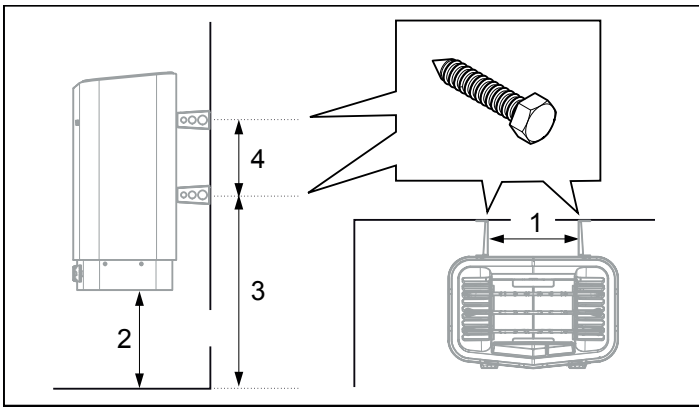

Figure 12: Dimensioning
7. Position the bracket screws according to the specified dimensioning see Fig. 12.